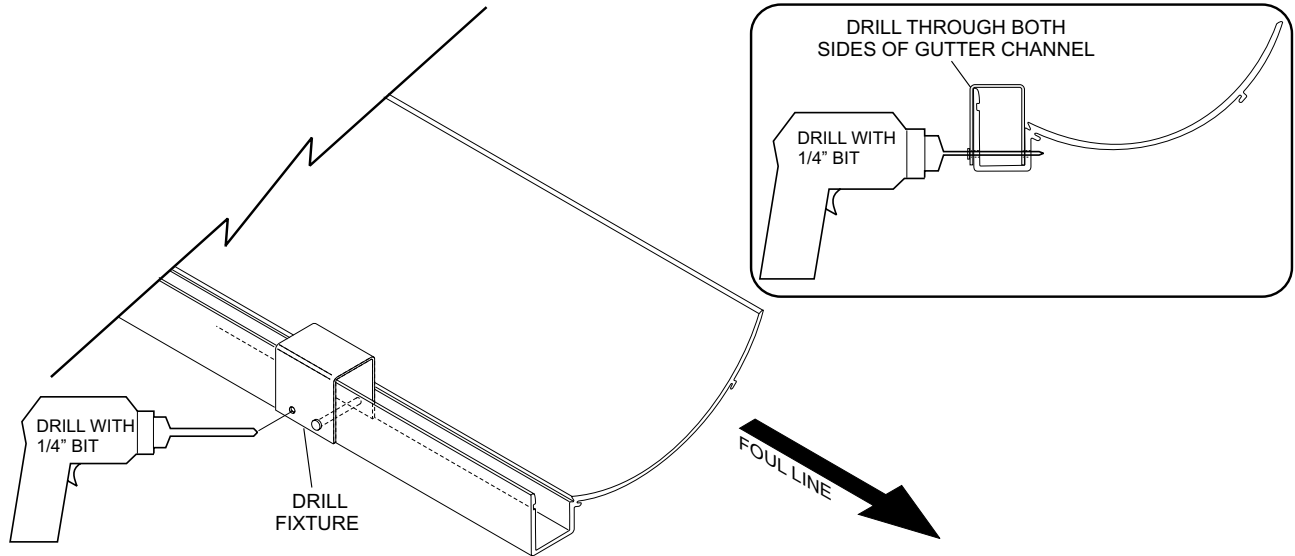

Figure 6
7. Drill a 1/4" (7mm) hole through the gutter using the open hole of the drill fixture. Refer to *Figure 6*.